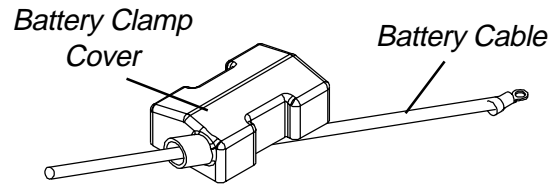

FIGURE 5 - CONNECTING BATTERY CABLES - BATTERY CLAMP METHOD
- C. **FOR DUAL GROUP 22 NF BATTERIES THAT DO NOT HAVE MOUNTING HOLES IN THE BATTERY TERMINAL(S)/POST(S)** - Use battery clamp method. Refer to FIGURES 5, 6 AND 7.
The battery clamp of the POSITIVE (+) battery terminal/post MUST be mounted in the position shown in FIGURE 5, otherwise the battery box top cannot be installed properly.
1. Perform one (1) of the following:
- A. If the battery clamp of the POSITIVE (+) battery terminal/post is **NOT** mounted in the orientation shown in FIGURE 5, perform the following:
2. Install battery clamp covers onto battery cables as follows: (FIGURE 5)